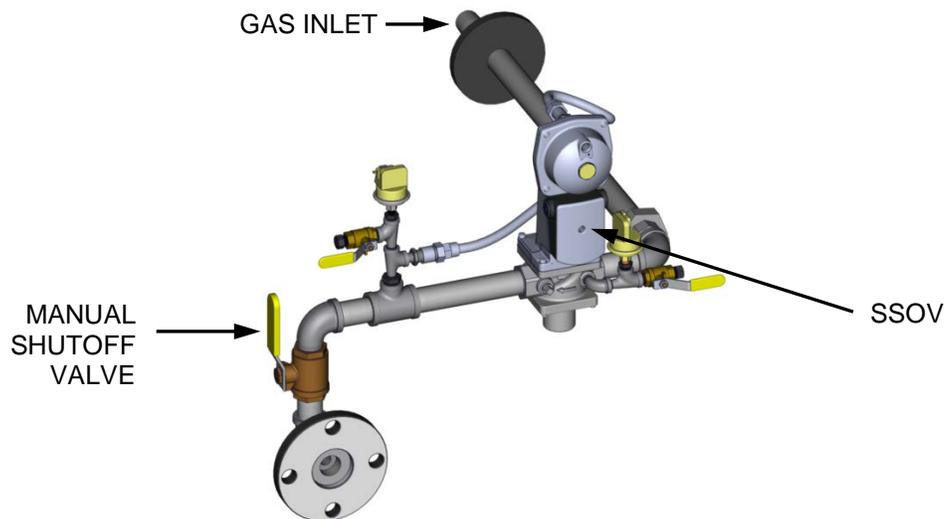

Figure 3-3. SSOV Location (INN1060 Gas Train)
2. The unit checks to ensure that the Proof of Closure (POC) switch in the downstream Safety Shut-Off Valve (SSOV) is closed. See Figure 3-3 for SSOV location.